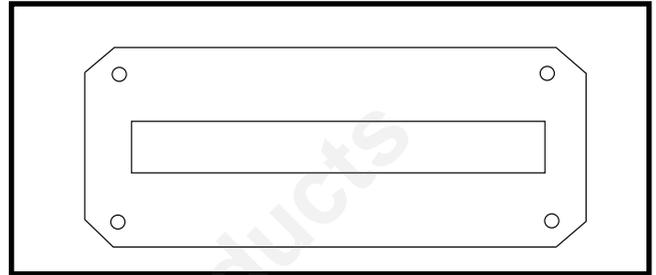

Figure 7.6 Standard Restrictor
1. Locate the inner firebox exhaust restrictor. Figure 7.6.